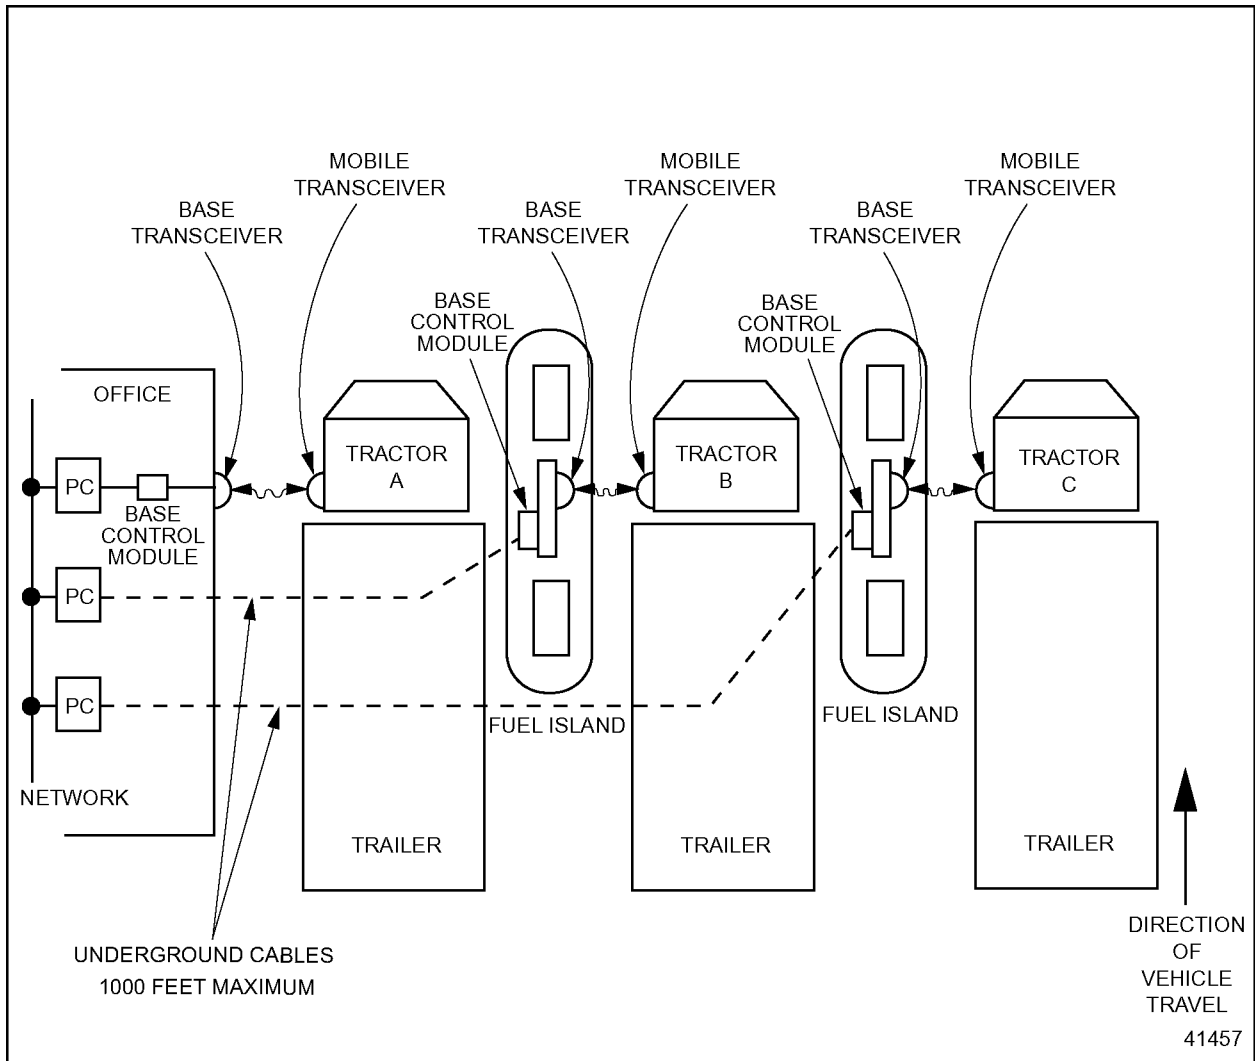

**Figure 9. Two Base Transceivers, One Base Control Module, Multiple Lanes – Example 3**
- Two Transceivers, one Control Module covering multiple lanes; only one vehicle is serviced at a time (see Figure 7, Figure 8, and Figure 9).